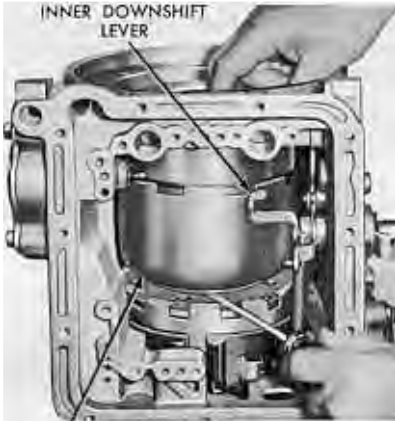

FIG. 38—Removing Front Pump
3. Remove the front pump by inserting a screwdriver behind the input shell (Fig. 38). Move the input shell forward until the front pump seal is above the edge of the case. Remove the front pump and gasket from the case. If the selective thrust washer No. 1 did not come out with the front pump, remove it from the top of the reverse-high clutch.